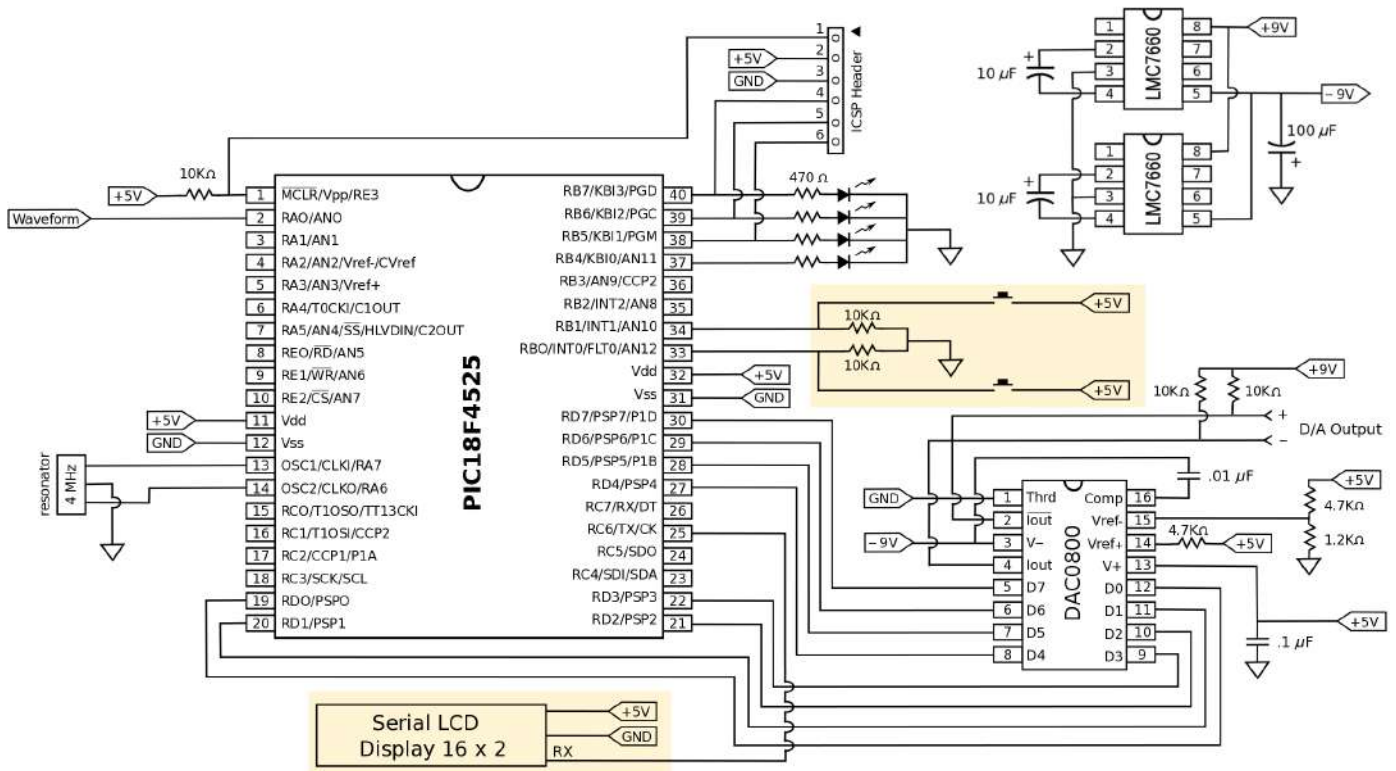

Figure 4.1: Schematic of circuit for LCD screen and multi-mode display
1. Using your breadboard and circuit from Lab 3, add the highlighted section seen above in Figure 4.1 to your circuit.